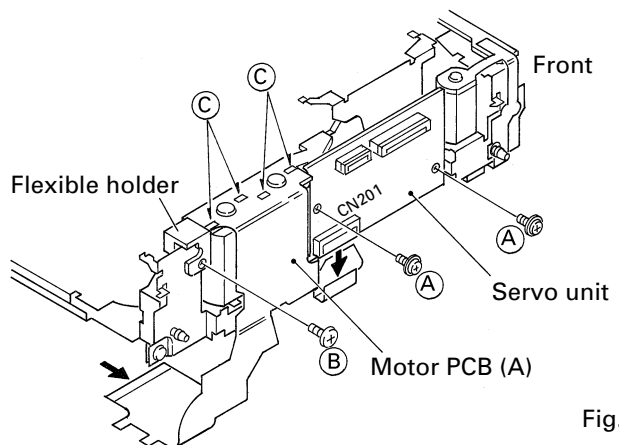

Fig. 36
Disconnect the the flexible PCB (Motor PCB (A)) from the connector CN201 on the Servo unit. (See Fig. 36)
3. Loosen the 3 screws. Remove the PCB units (C) & (D) and the frame.
4. Remove the spring (A).
- Remove the Servo unit. (See Fig. 36)
- Remove the Motor PCB (A). (See Fig. 36)